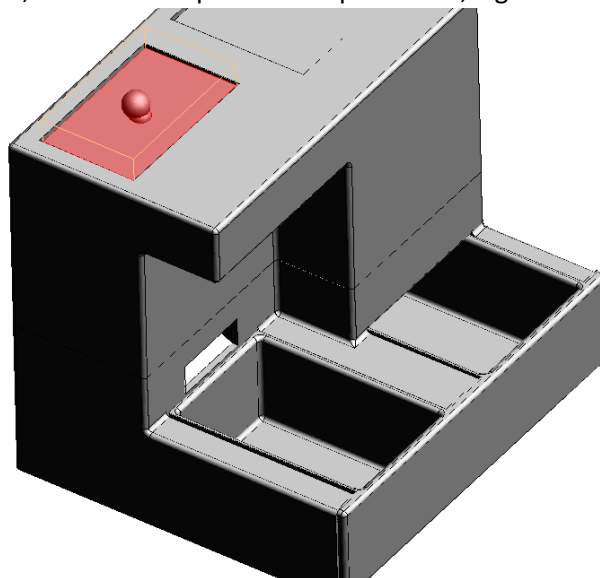

Figure 7 Feeder Device, deposit cover
4. **Deposit cover**, covers the deposit of the pet's food, Fig.7.